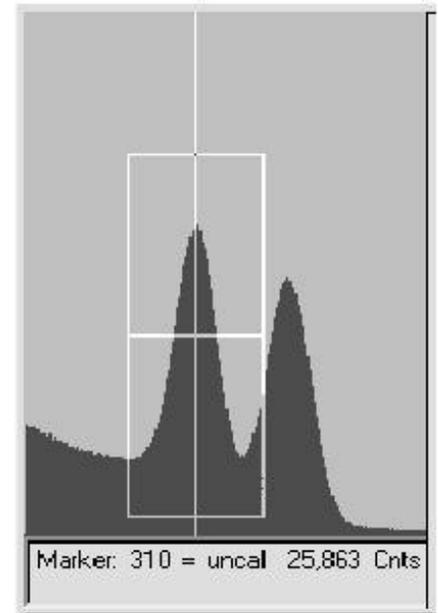

Fig. 9. The Rubber Rectangle’s Crosshairs.
2. Drag the mouse diagonally across the area of interest. As you do this, the mouse will be drawing a reverse-color rectangle bisected by the marker line. Note that when drawing a rubber rectangle, the marker line combines with a horizontal line inside the rectangle to form crosshairs (Fig. 9). They make it easy to select the center channel in the area of interest — this might be the center of an ROI that you wish to mark or unmark, a portion of the spectrum to be summed, or a peak for which you want detailed information.